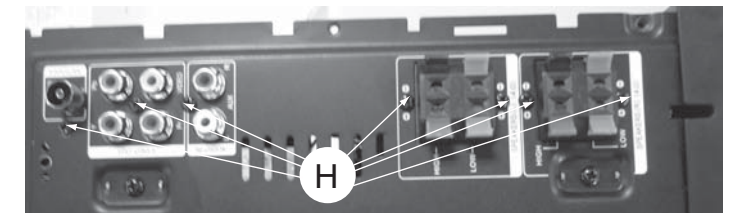

Figure 9
- 2) Loosen 7 screws "H" at the back panel as shown in figure 9.